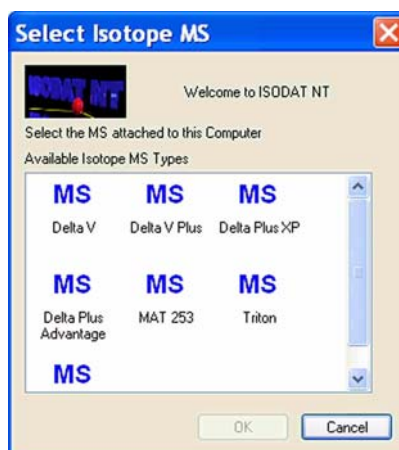

Figure 3-2. Selecting the mass spectrometer
3. Isodat is a software package that controls a family of mass spectrometers for isotope ratio measurements. As a first step, the user must select the mass spectrometer he wants to control by Isodat. Select your mass spectrometer, DELTA V, for example. See Figure 3-2.